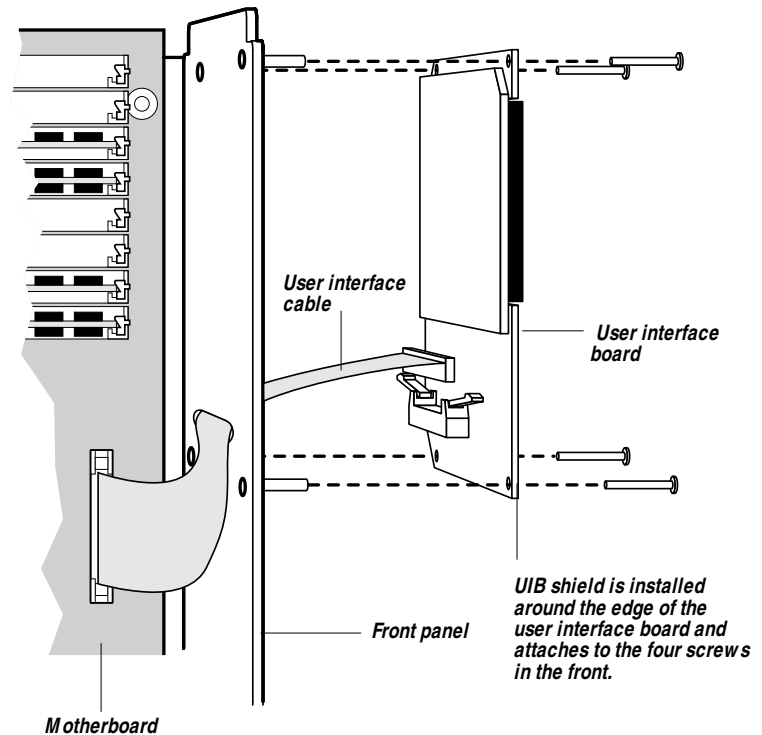

Figure 5-13 User interface board mounting hardware
2. *Remove the four screws that secure the user interface board and the UIB shield to the Fiery XJ-R/R2 chassis (see Figure 5-13 on page 5-17).*